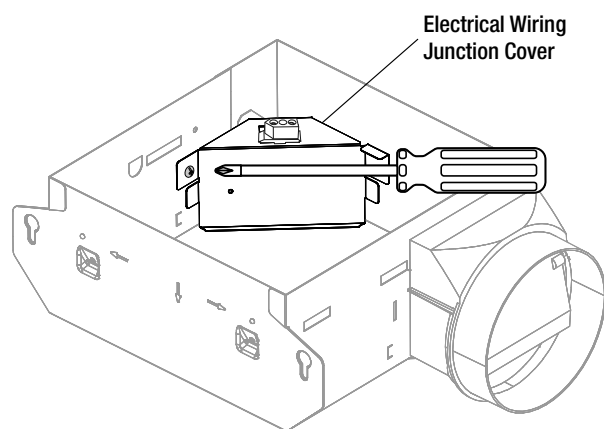

Fig. 8
- Unscrew the screw securing the electrical wiring junction cover and remove them both from the fan housing. See figure 8.